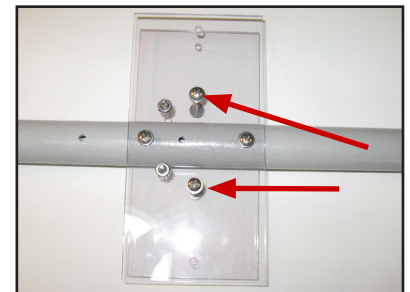

Fig. 44
- Place a No. 10 SS Flat Washer over each of two (2) 10-24 x 2.0" Machine Screws. Insert the screws passing through both the top and bottom Element Mounting Plates as shown in Fig. 44. Place a No. 10 Flat SS Washer and then a 10-24 Anti-vibration Hex Nut over each screw. Tighten the fasteners finger-tight.